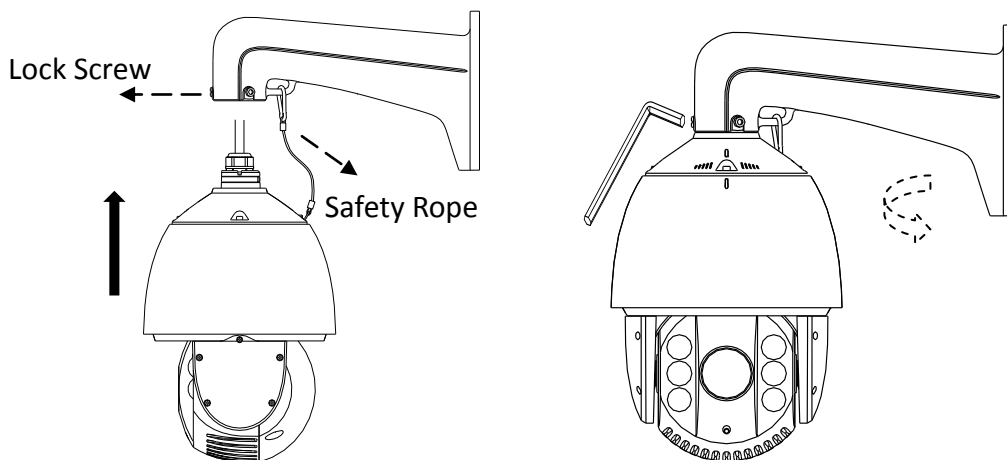

Figure 1-4 Secure the Speed Dome
- 1). Hang the safety rope to the speed dome and then hook to the mount as shown in Figure 1-4.